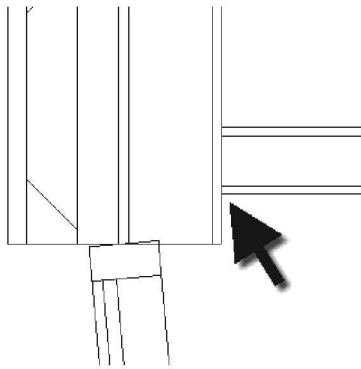

FIGURE 5-4.34
***TIP:** The Disallow Join feature works on regular walls. One popular use is when a new wall abuts an existing wall and you do not want them to join. For example, if the exterior wall were existing and the interior partition new, you would want a line to separate them as in Figure 5-4.34. You do not need to make this change to your model.*